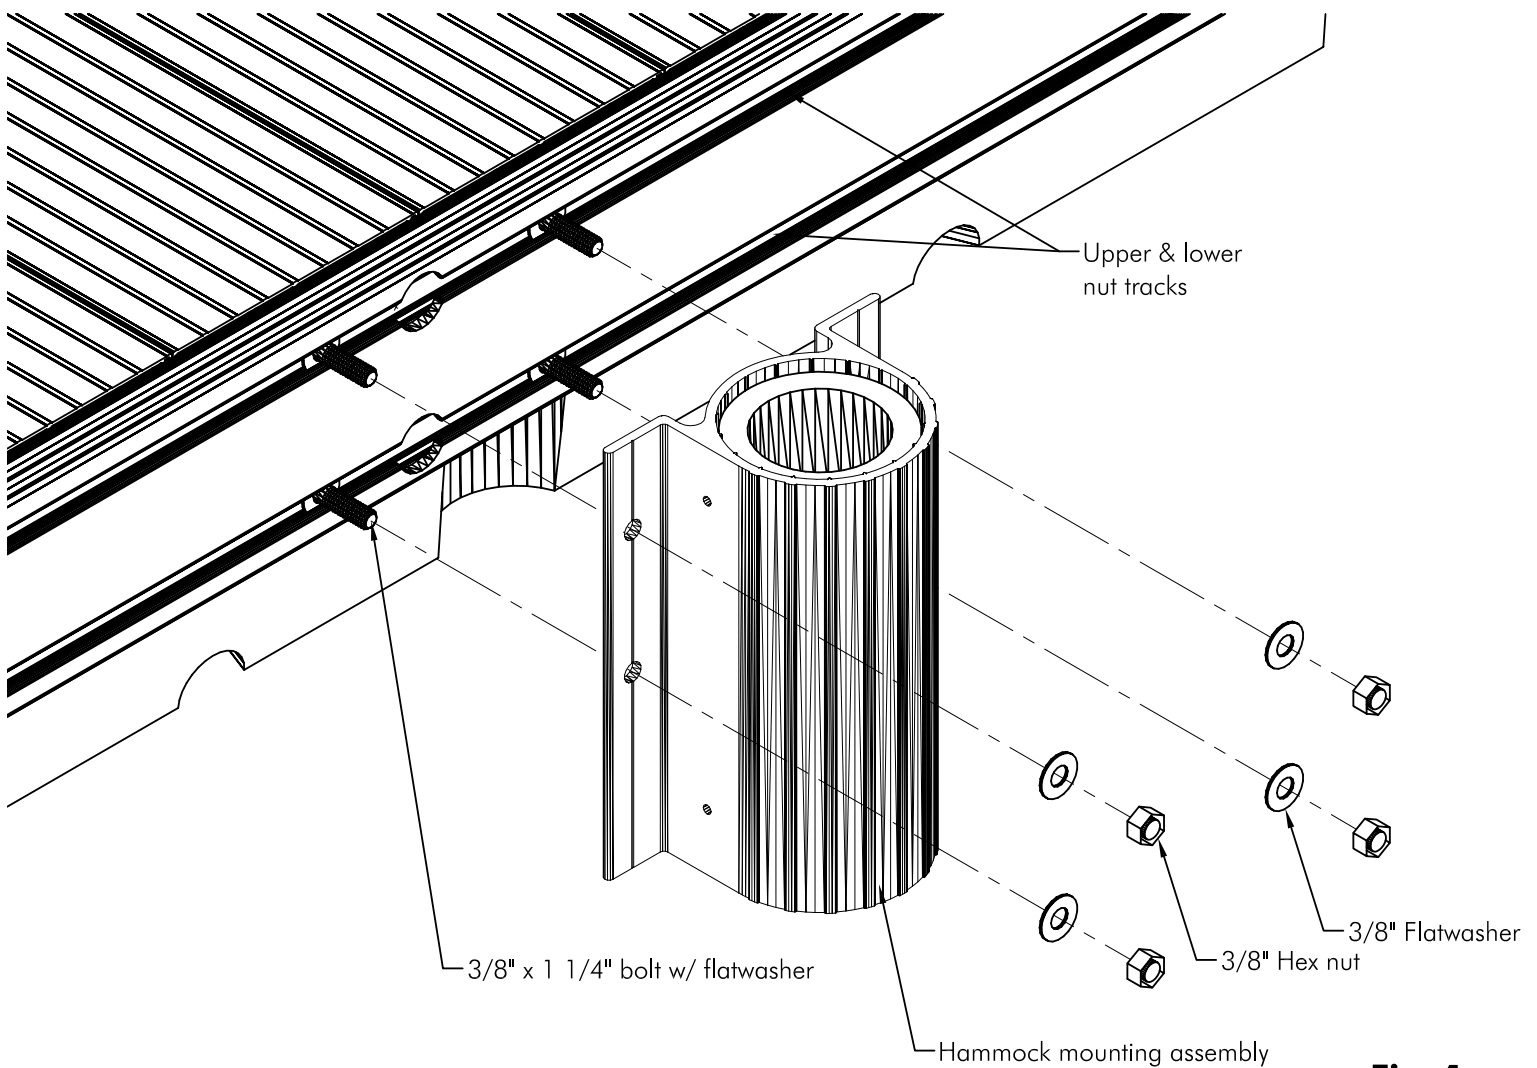

Fig. 1
- Insert (2) 3/8" x 1 1/4" bolts w/ flat washers into upper nut tracks. Repeat procedure with the lower nut track As shown in Fig. 1
- Slide bolts with flatwashers to desired location. Put hammock mounting assembly over bolts and install flatwashers and nylock nuts. As shown in Fig. 1
- Slide assembly to desired location. Torque nylock nuts to 30 ft/lbs. As shown in Fig. 1